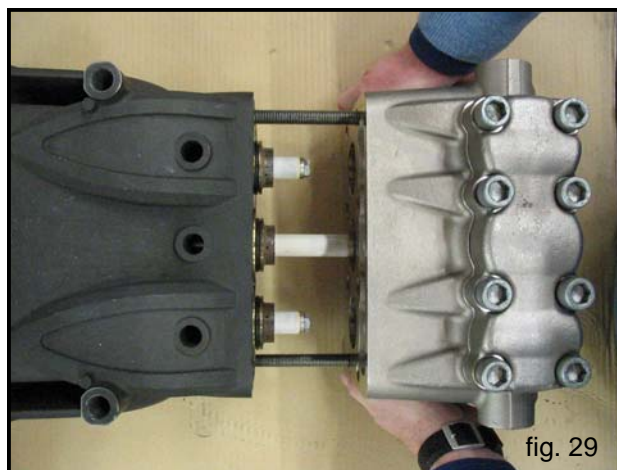

fig. 29
- B) Lubricate components ②③⑤ with silicone grease type OCILIS cod. 12001600; this operation is also considered necessary in order to facilitate the settling of the seal lip on the piston.
2. Using two screws - auxiliary pin (cod. 27508200) fastened to the crankcase as indicated in fig. 29, position the complete head, being sure that it is centred on the central piston only.